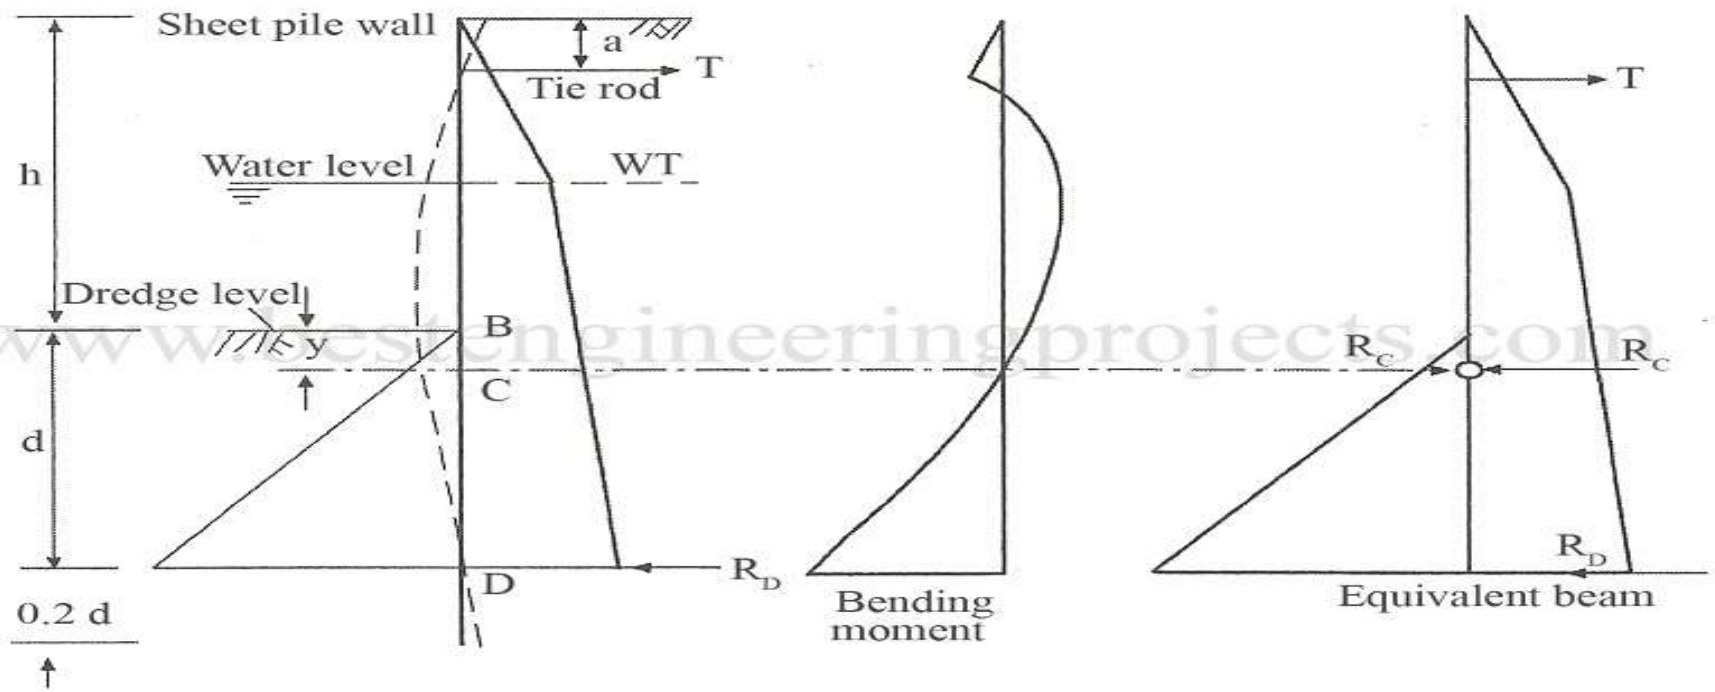

Fig 3 The Principles of Equivalent Beam Method
- * In fixed earth support method, the depth of penetration is adequate and soil below the dredge line provides considerable anchorage. The wall acts as propped cantilever beam and cannot rotate freely at its lower end as shown in Fig.3 and the point of contra flexure lies close to the dredge line.